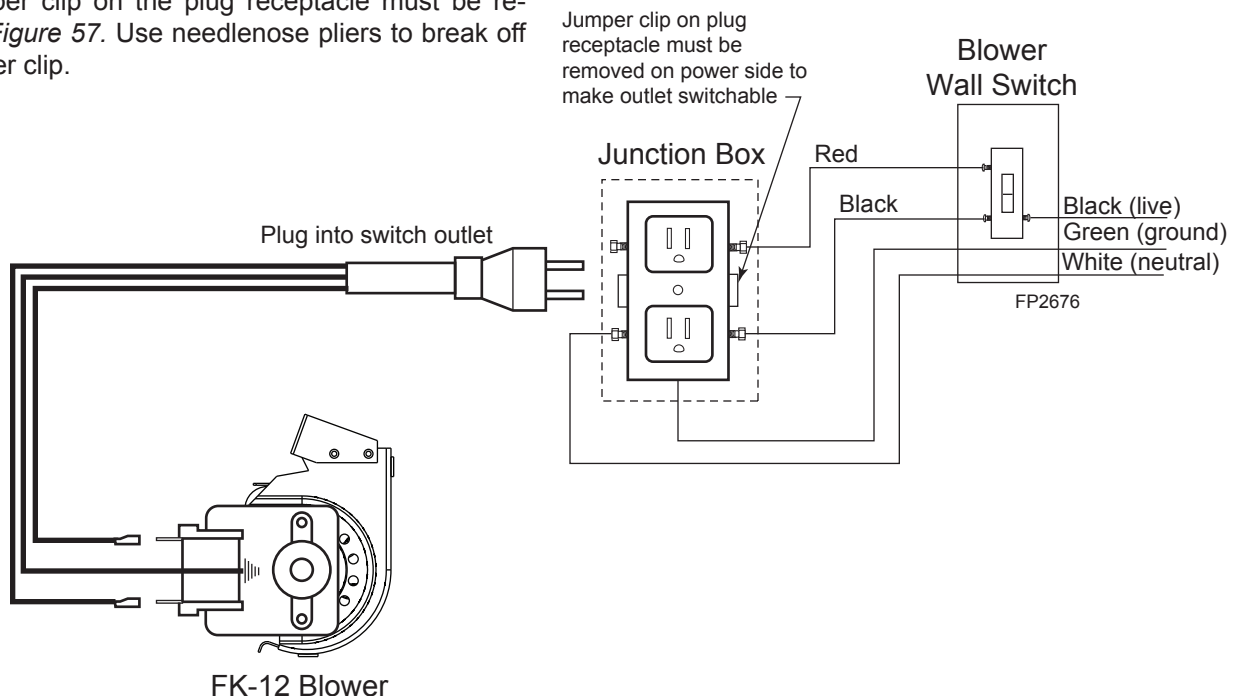

Figure 57 -
3. The jumper clip on the plug receptacle must be removed. *Figure 57.* Use needlenose pliers to break off the jumper clip.